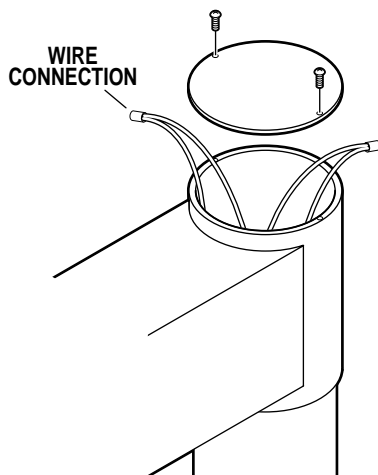

Figure 20. Bulb Voltage Test
- a. Remove top cover from VST and test bulb voltage at the wire connections. Turn main power "ON" and set the Dimmer Control for the lighthouse being tested to maximum intensity for the test. Output voltage (at the connectors) should be  $20V \pm 0.2V$ . See figure 20.